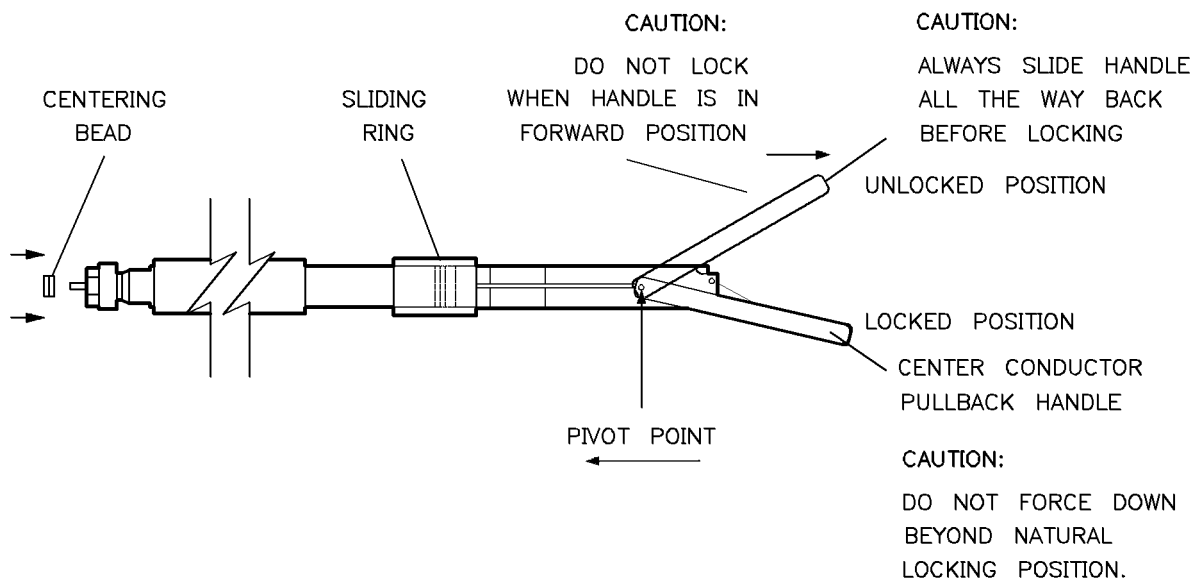

Figure 4-7. Gaging the Sliding Load
2. See Figure 4-7. Remove the protective end cap from the sliding load. Release the center conductor pullback mechanism by raising the handle to the unlocked position. Carefully move the handle toward the connector end of the sliding load. The center conductor will extend beyond the end of the connector. With the sliding ring pulled back approximately 0.5 inch, install a centering bead in the connector end of the sliding load.
CAUTION To avoid damage, always move the center conductor pullback handle back as shown in Figure 4-7 before unlocking the handle. Do not press the handle past the locked position.
5. Move the center conductor pullback handle back and then down into its locked position as shown in Figure 4-7.
11. Refer to Figure 4-7. Carefully remove the centering bead from the sliding load. If the centering bead does not come out of the sliding load easily, lift the center conductor pullback and grasp the pivot point with thumb and forefinger. Move the pivot point of the center conductor pullback toward the connector end of the sliding load to extend the center conductor. Remove the centering bead while holding the center conductor pullback toward the connector end of the sliding load.